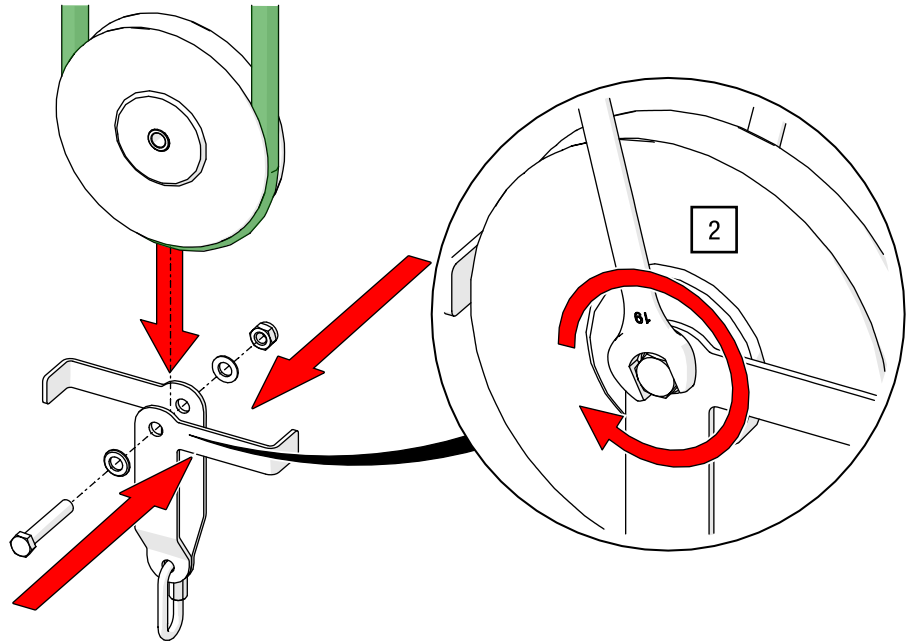

Fig. 125: Manual drive ROPE-DRIVE – For hemp rope sandbag pulley, insert rope and refit pulley
2. Place the hemp rope on the pulley and refit it (see Fig. 125).